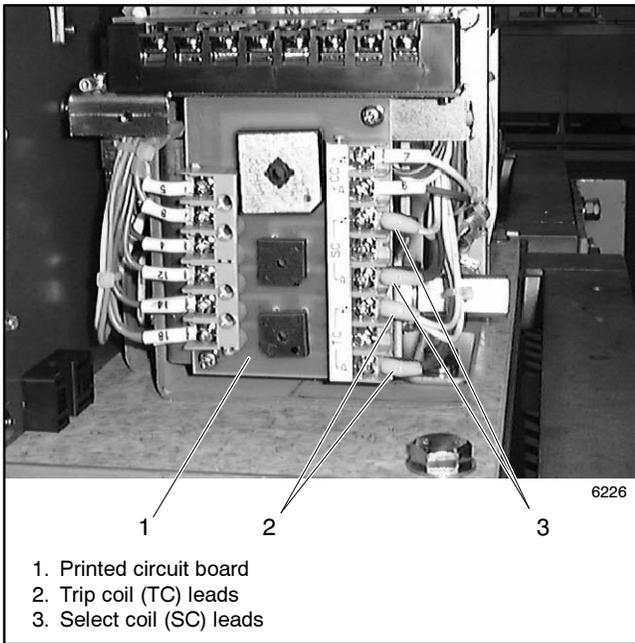
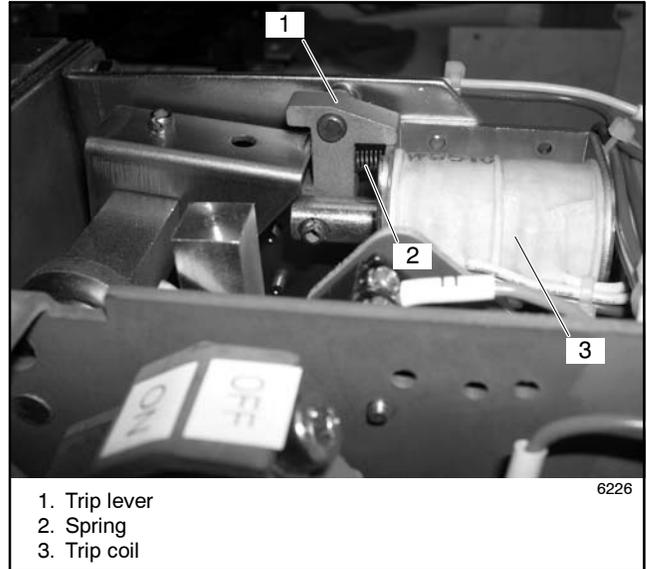
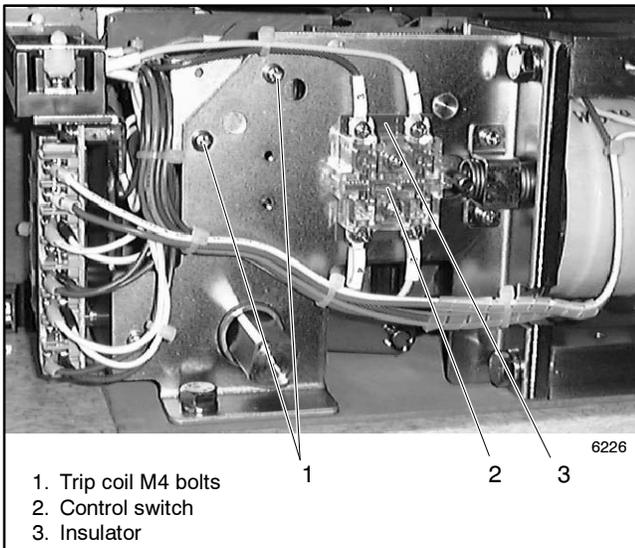

Figure 6-32 Circuit Board Connections
Figure 6-34 Trip Coil
Figure 6-33 Trip Coil Replacement, 600 Amp Models
1. Note the connections and disconnect the trip coil leads from the printed circuit board and the control switch. See Figure 6-32 and Figure 6-33.
2. Remove two M4 bolts and replace the trip coil. Retain the small spring for the trip coil lever. See Figure 6-33 and Figure 6-34.
1. Note the connections and disconnect the select coil leads from the printed circuit board and the control switch. See Figure 6-32 and Figure 6-33.
1. Note the connections and disconnect all leads to the circuit board. See Figure 6-32.